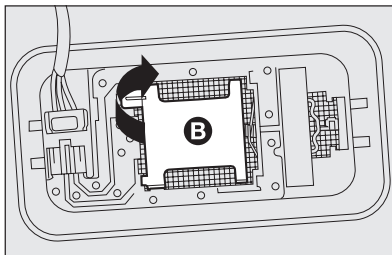

fig. 26
- open the cap **B**-fig. 26 as indicated;